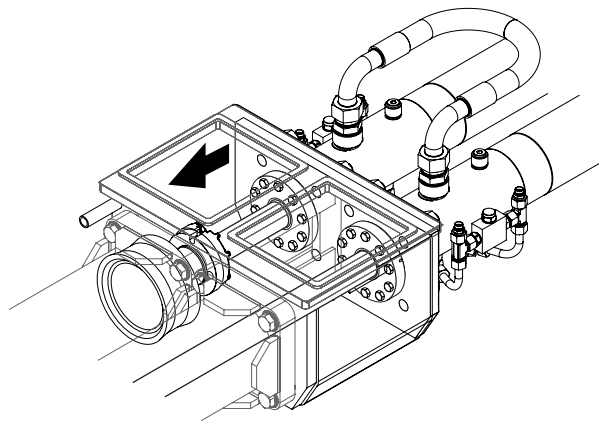

Figure 19
8. Restart the engine and clear all the E-stop requests. Press the concrete pump forward or reverse button and ram change button simultaneously to slowly extend the cylinder rod until it barely contacts the rubber ram flange (Figure 19). Release the concrete pump forward or reverse button or ram change button to stop the differential cylinders. Shut off the engine.